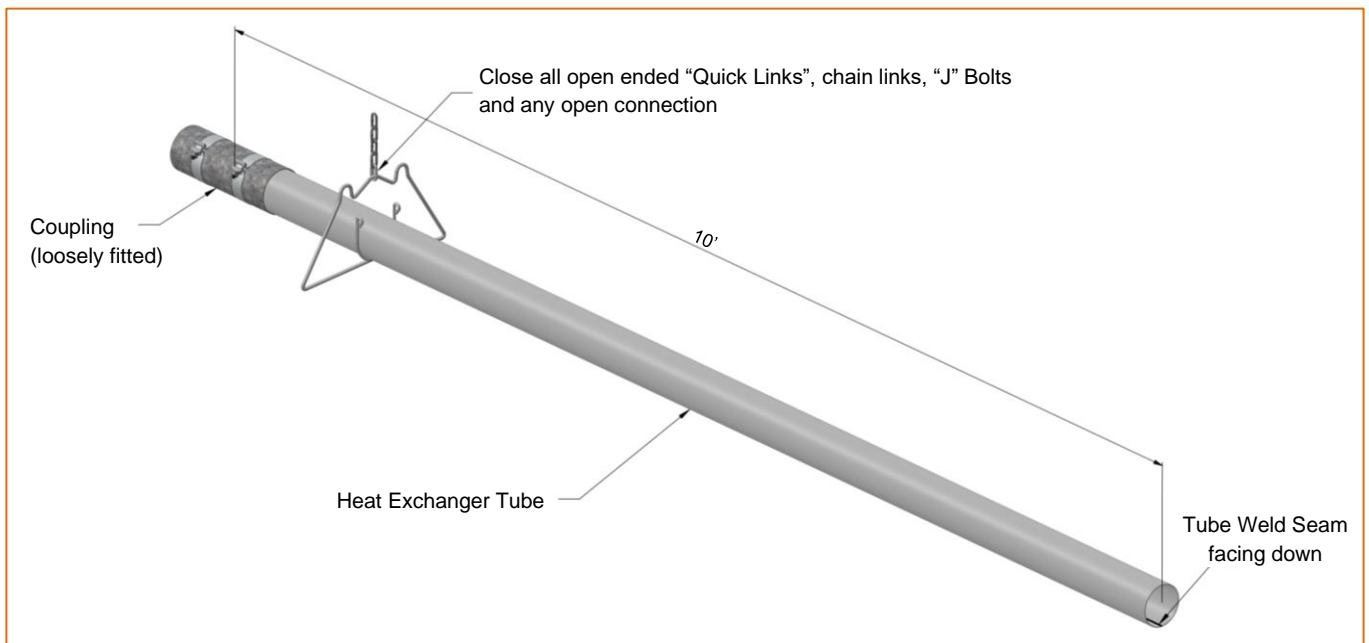

Figure 8: Installation of Heat Exchanger Tube and Coupling
- For all remaining tubes, fit the end of the tube with a coupling refer to Figure 8, (the coupling should be loose).